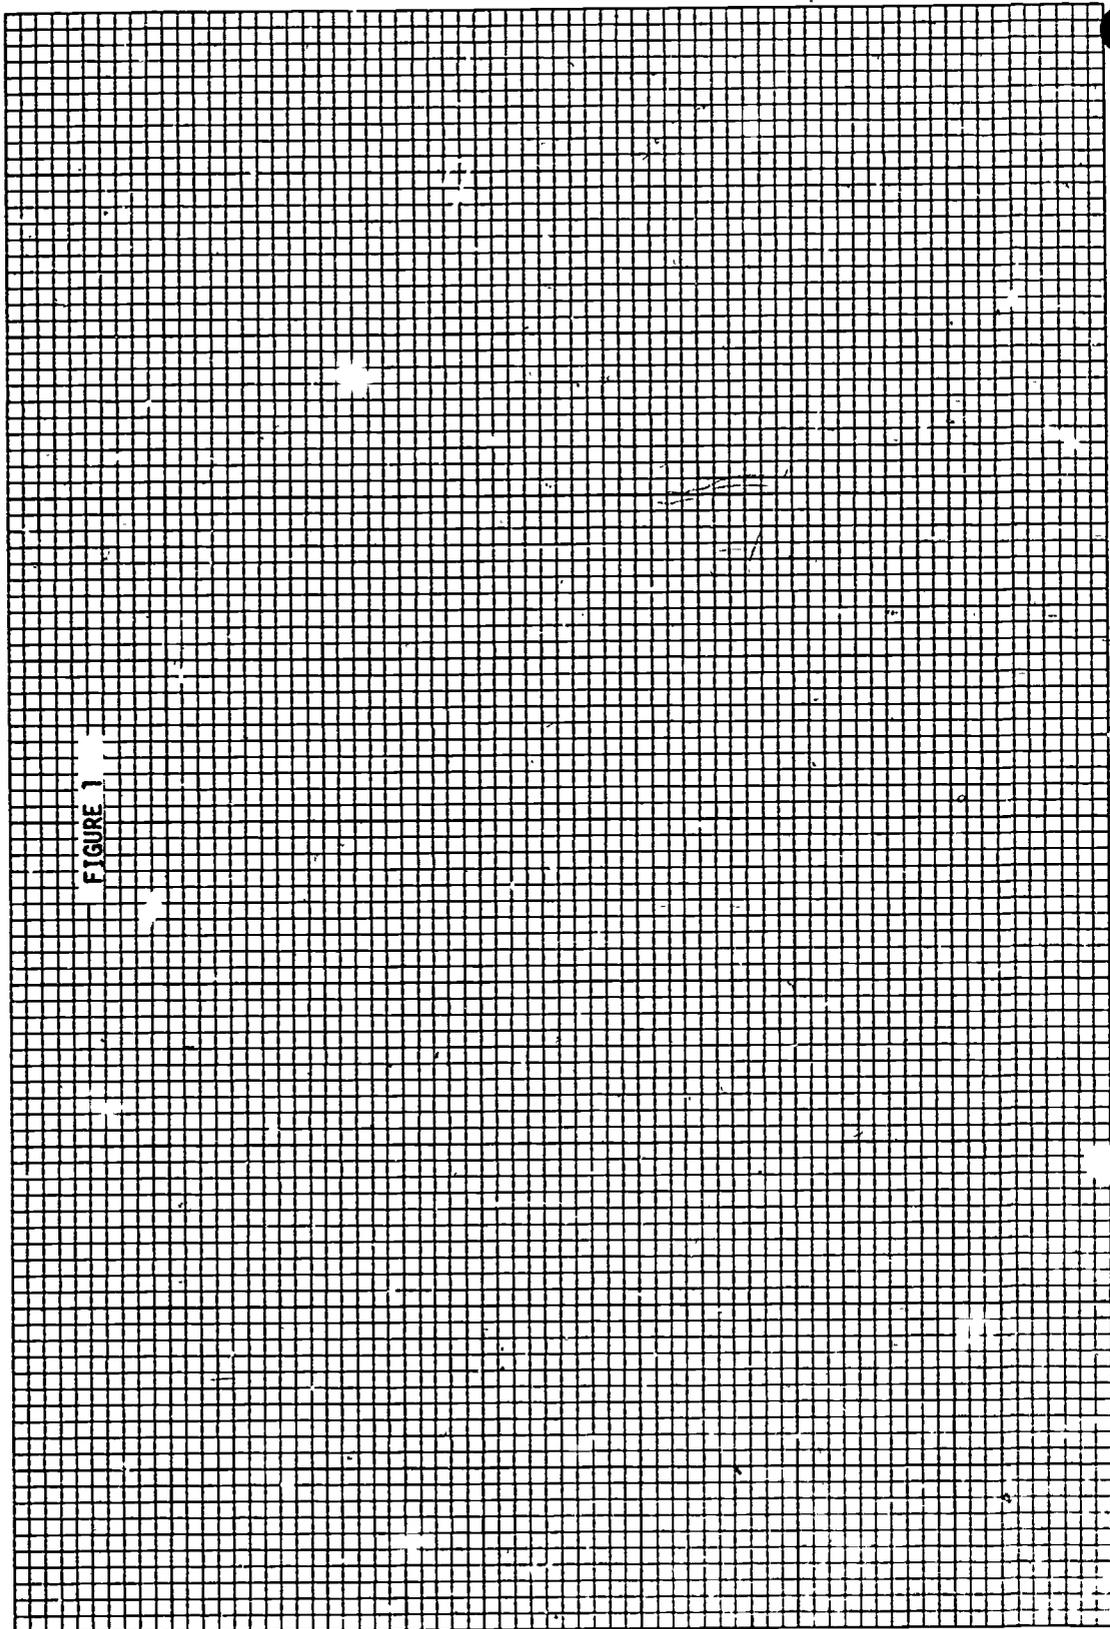

FIGURE 1
1. Graph paper (one piece for each calibration graph). There are many kinds of graph paper. In ordinary water pollution analyses, a simple type of graph paper is used. Figure 1 is an example of the type of simple graph paper. The main feature of simple graph paper is that it is divided into a certain number of large squares of equal size. (For example, one inch might be the length of one side of the large squares). These large squares are subdivided into a certain number of smaller squares of equal size. (For example, a one inch square might be subdivided into one hundred small squares).